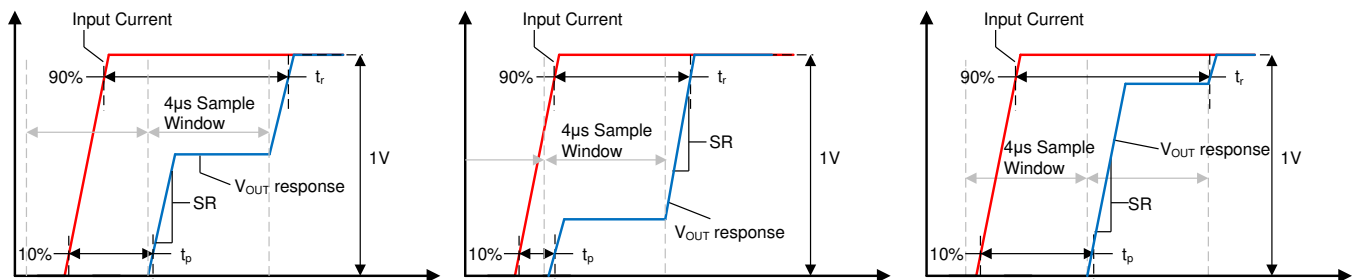

Figure 33. Small Current Input Step Transient Response
Slew rate (SR) is defined as the V_{OUT} rate of change for a single integration step's output transition, as shown in Figure 33. Because the device often requires two sampling windows to reach a full 90% settling of its final value, this slew rate is not equal to the 10%-90% transition time for the full output swing.
Propagation delay is the time period between the input current waveform reaching 10% of its final value and V_{OUT} reaching 10% of its final value. This propagation delay is heavily dependent upon the alignment of the input current step and the sampling period of the TMCS1101, as shown for several different sampling window cases in Figure 33.
Response time is the time period between the input current reaching 90% of its final value and the output reaching 90% of its final value, for an input current step sufficient to cause a 1V transition on the output. Figure 33 shows the response time of the TMCS1101 under three different time cases. Unless a step input occurs directly during the beginning of one sampling window the response time will include two sampling intervals.